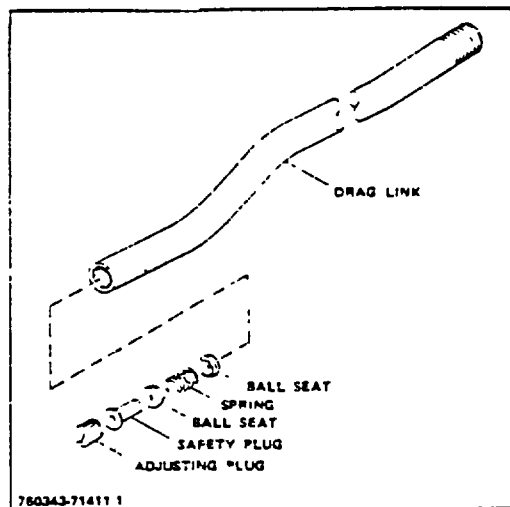

Figure 7. Drag Link Components (PRT)
5. Unscrew drag link (Fig. 7/ 9) from cylinder.